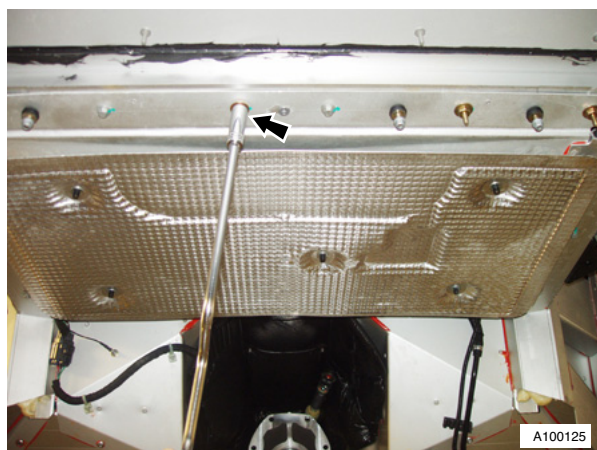

Fig. 6
17. With assistance support tank, remove bolts (x14) tank to body and remove fuel tank (see Fig. 6).